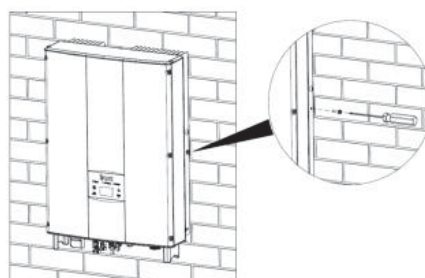

Figure 4.9 Tighten M5X20 bolts
(6) Ensure the inverter is installed properly and tighten the M5X20 bolts into the screw holes on the left and right side of inverter. As shown in Figure 4.9.